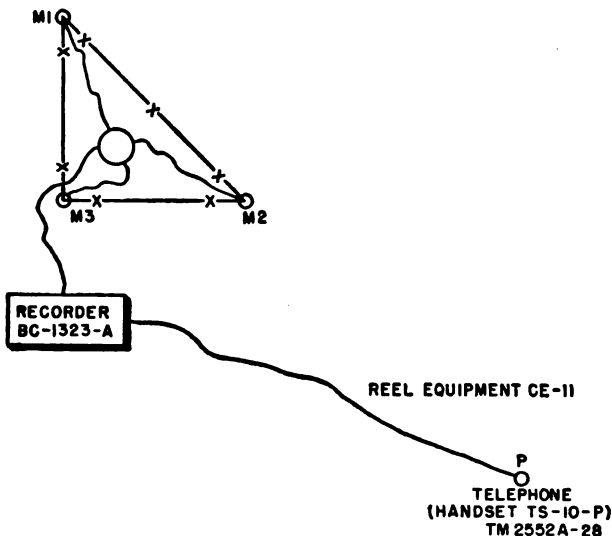

Figure 27. Surveying positions, using wire method.
- (1) Perform the steps described in paragraph 32*a*(1) through (4).
- (2) Place the RADIO—SURVEY—OFF switch (S4) to the SURVEY position.
- (3) Fire a shot near the telephone at P (fig. 27).
- (4) When the report is heard by the recorder operator (through the air at the recorder position), stop the recording by throwing the main control lever (S1) to the STOP position.
- (5) Put on Headset HS-30-U.
- (6) Place the play-back lever (S2) in position 3, and place the main control lever (S1) to the RUN position.
- (7) The recordings of the three micro-
a. **WIRE-LINE METHOD.** There are two methods, when a wire line (Reel Equipment CE-11) is used, for determining the base line distance and azimuth. One method is explained in detail in paragraph 33, in which point P (fig. 27) is actually at the microphone M3 position of the second (R) array. Performing the same steps at the second (R) array and permitting the point (P) to be located at the microphone M3